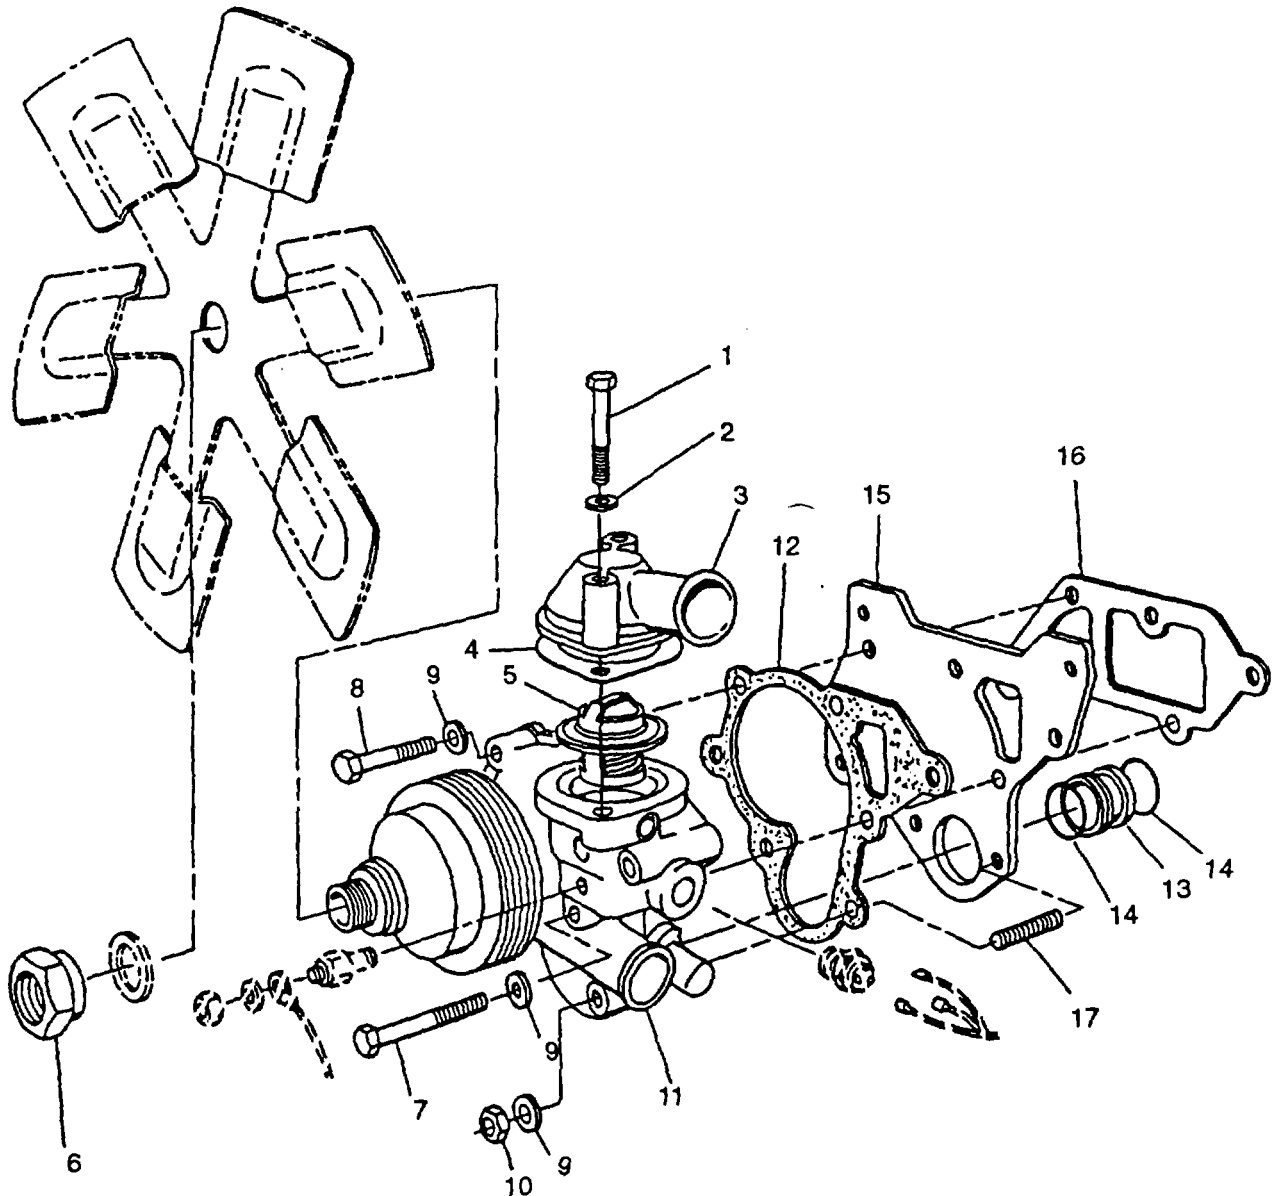

FIGURE 3-4. Cooling System
- c. Loosen hose clamp and disconnect outlet hose from thermostat housing (3, FIGURE 3-4).
- d. Remove two capscrews (1), washers (2), thermostat housing (3), and gasket (4). Discard gasket (4).
- e. Remove thermostat (5) from water pump.
- b. Clean any debris and traces of old gasket from thermostat housing (3, FIGURE 3-4) and water pump (11) mating surfaces. Dry all surfaces.
- c. Install thermostat (5) in water pump.
- d. Install new gasket (4), thermostat housing (3), two washers (2) and cap screws (1).
- e. Connect outlet hose to thermostat housing (3) and secure with hose clamp.
**Nut (6, FIGURE 3-4) has left hand threads.**
- c. Remove nut (6), washer, fan, and fan belt.
**Identify location of two shorter capscrews (8) for use during installation.**
- f. Remove five capscrews (7 and 8), two nuts (10), and seven washers (9).
- g. Slide water pump (11) with thermostat (5) and housing (3) attached, from mounting studs (17). Remove and discard gasket (12).
- h. Remove sleeve (13) and two preformed packings (14). Discard preformed packings.
- i. Remove mounting plate (15) and gasket (16). Discard gasket.
- j. If damaged, remove two mounting studs (17).
**If two water pump studs (17, FIGURE 3-4) have been removed, they must be installed and finger tightened. Do not overtighten as this will cause thread damage preventing a fiat sealing surface.**
- c. If removed, install two mounting studs (17) finger tight.
- d. Install two new preformed packings (14) and sleeve (13).
- e. Install new gasket (16), mounting plate (15), new gasket (12), and water pump (11).
- f. Secure pump to crankcase with seven washers (9), two nuts (10) and five capscrews (8 and 7). Install two shorter capscrews (8) as noted during removal. Tighten hardware to 186 in-lbs (21.0 Nm).
**Nut (6) has left hand threads.**
- i. Install fan belt, fan, washer, and nut (6). Tighten nut (6) to 20 to 24 ft-lbs (27 to 32 Nm).